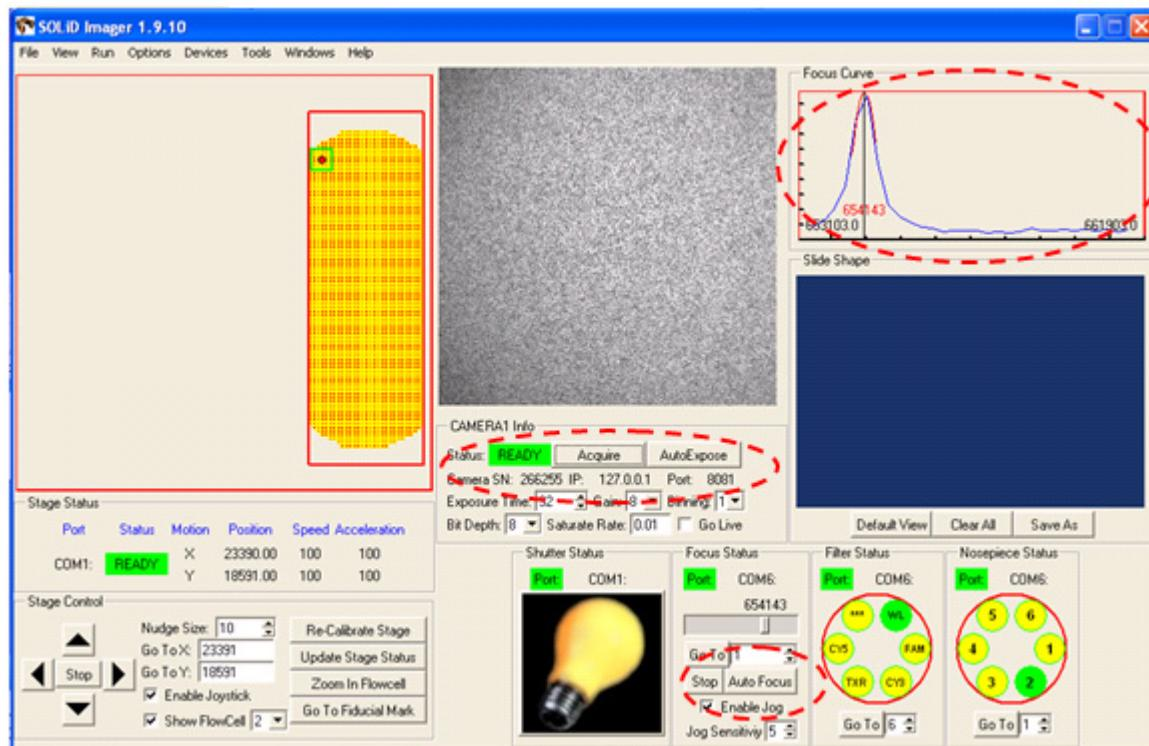

Figure 79 Click **AutoFocus** and **AutoExpose** so that the focus peak falls in the focus range.
2. In the Imager window, click the **AutoFocus** button, then wait about 20 seconds for the Imager to focus on the slide (see Figure 79). The Camera 1 indicator displays BUSY while autofocus is running. When the Camera 1 indicator displays READY, click **AutoExpose**, then wait for the Camera 1 indicator to show READY. Click **AutoFocus** so that the Imager can focus again (this time with correct exposure settings). Note where the focus peak falls in the focus range by looking at the value that displays where the peak is located.